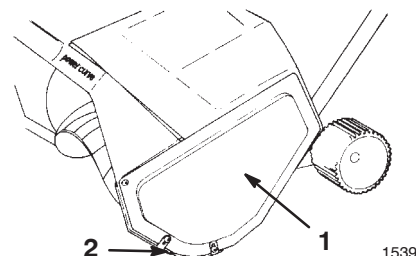
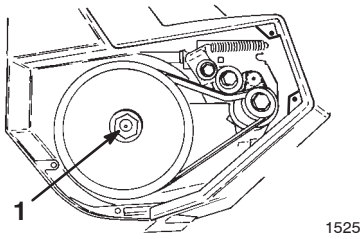

Figure 15
Figure 16
Note: If you cannot remove the rotor shaft by holding the rotor, remove the left side cover and the skid (Fig. 15). Hold the hex nut with a 7/8-inch wrench while unscrewing the rotor shaft (Fig. 16).
1. Remove the 3 screws that secure the left side plate to the snowthrower frame (Fig. 15). Remove the side plate and the skid.
- Remove the screws that secure the left side plate and the skid to the snowthrower frame (Fig. 15), and remove the side plate and the skid.